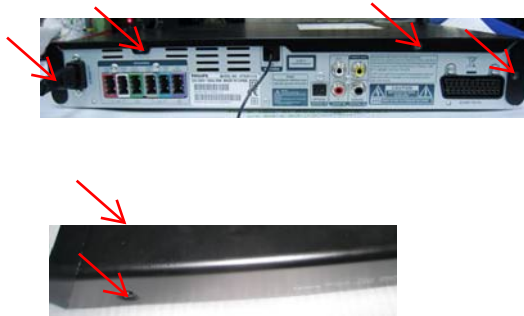

Figure 1
**Step1:** Remove 6 screws around the Top Cover, and then remove the Top Cover (Figure 1).